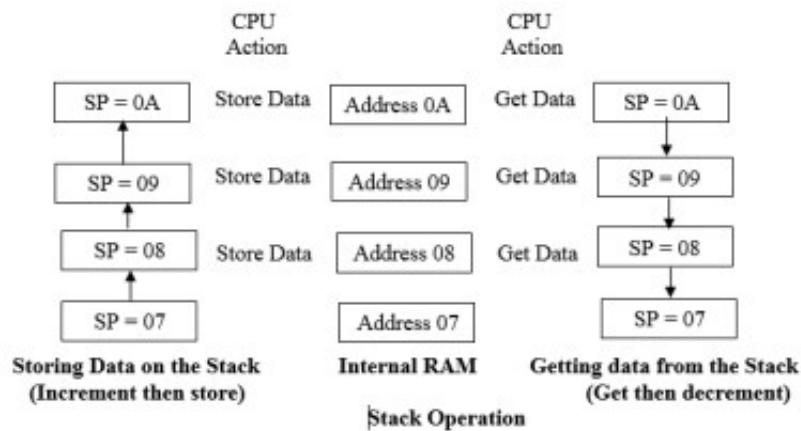

Fig. 2.6: Stack operation and Stack Pointer locations
The operation of the stack and SP is shown in Fig. 2.6. The stack pointer (SP) is set to 07H when 8051 is reset. But it can be changed to any internal RAM location by the programmer. The stack is limited in height to the size of internal RAM. Stack has the capability to overwrite the valuable data in register banks, bit addressable RAM and scratch pad areas of RAM. The stack is normally placed high in internal RAM, by an appropriate choice of the number placed in SP register to avoid any conflict with other registers, bit or scratch pad.